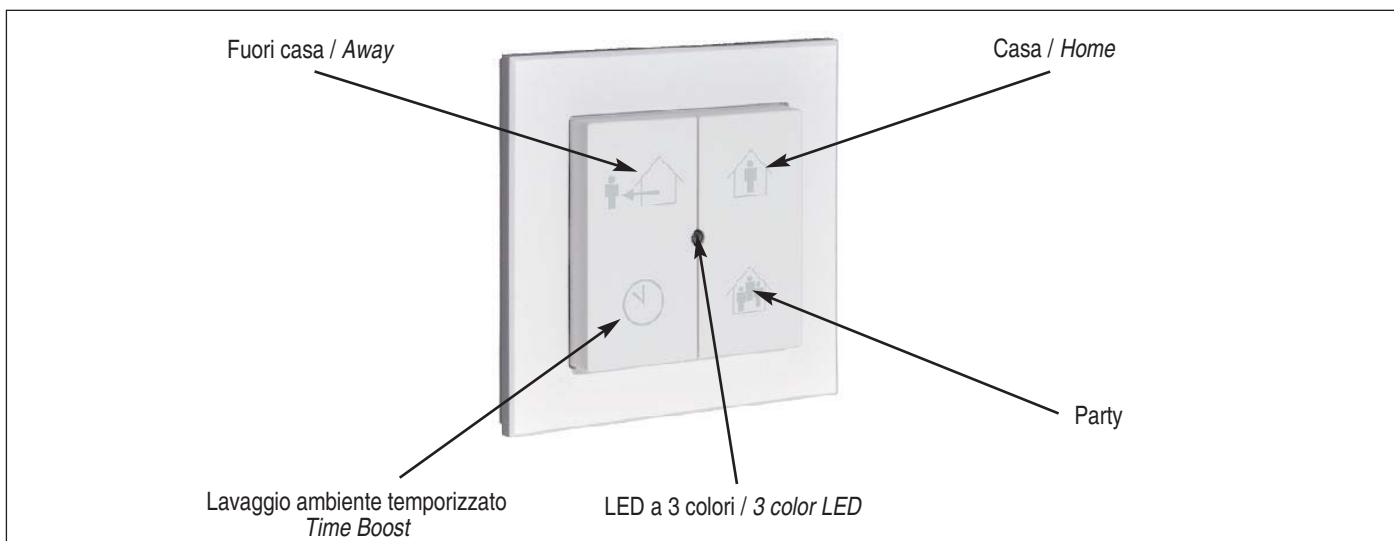

fig. 18
5.2 DESCRIZIONE INTERFACCIA A QUATTRO TASTI (FIG. 18)
5.2 FOUR-KEY INTERFACE DESCRIPTION (FIG. 18)